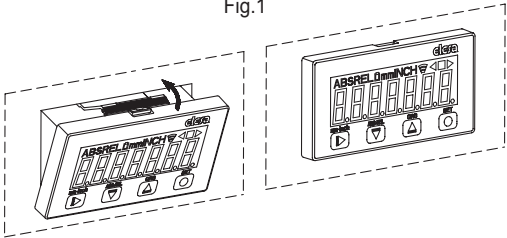

Fig.2
- Remove the indicator from its seat, applying pressure to the retention wing bringing it to the stop with the aid of a slotted screwdriver (Fig.2).